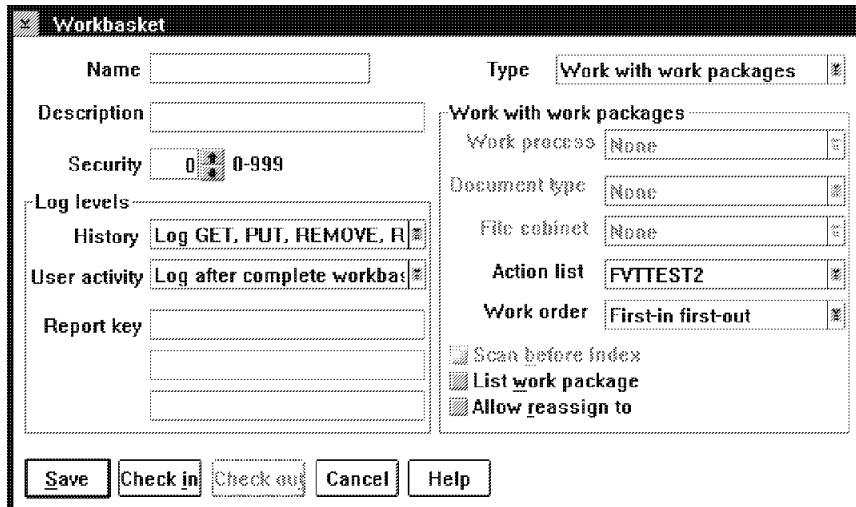

Figure 24. Workbasket Window
2. Select **Create another** from the **Edit** pull-down. You see the Workbasket window shown in Figure 24 on page 43.